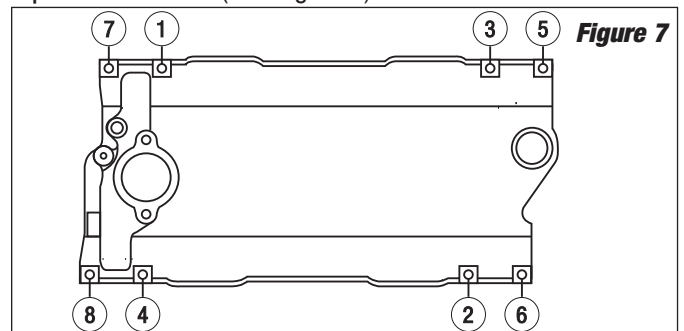

Figure 7
Edelbrock E-Tec/Vortec Applications will be secured with eight (8) 12 point 5/16 x 1.75" bolts and 5/16" washers. Torque to 11 ft.-lbs (See Figure 7).